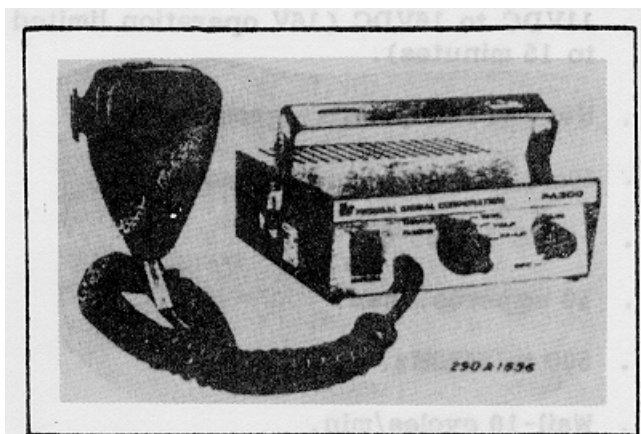

Figure 1-1. Mod PA300 Electronic Siren.
The Federal Model PA300 (figure 1-1) is a precision built, efficient and economical, full-featured electronic siren of advanced design. It provides wail, yelp and hi-lo siren tones, as well as the Tap II feature, public address (PA), radio rebroadcast and an air horn sound.